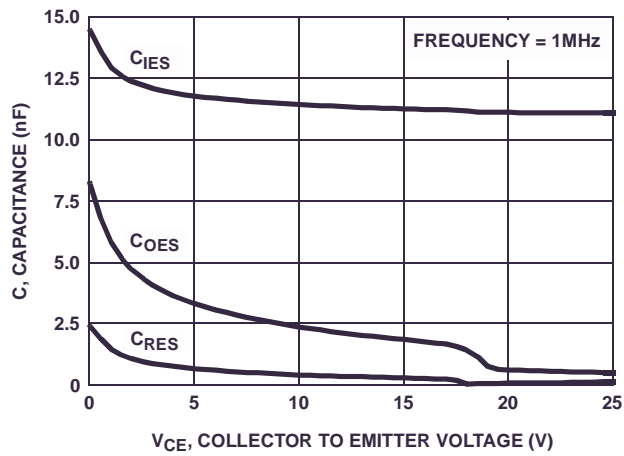

FIGURE 17. CAPACITANCE vs COLLECTOR TO EMITTER VOLTAGE
- Values for two Turn-On loss conditions are shown for the convenience of the circuit designer. E_{ON1} is the turn-on loss of the IGBT only. E_{ON2} is the turn-on loss when a typical diode is used in the test circuit and the diode is at the same T_J as the IGBT. The diode type is specified in Figure 17.